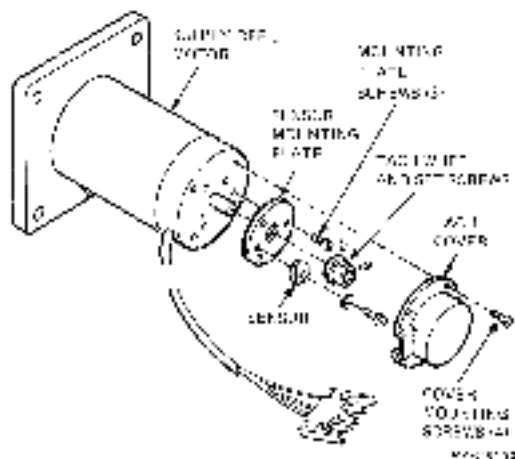

Figure 4-10 Supply Reel Motor Assembly
3. Remove the back cover and mounting screws from the motor (Figure 4-10). Retain them for reuse.
6. Remove the mounting screw (Figure 4-10) and the sensor from the mounting plate on the supply reel motor. Retain them for reuse.
2. Remove the four mounting screws and the tachometer cover from the supply motor (Figure 4-10).